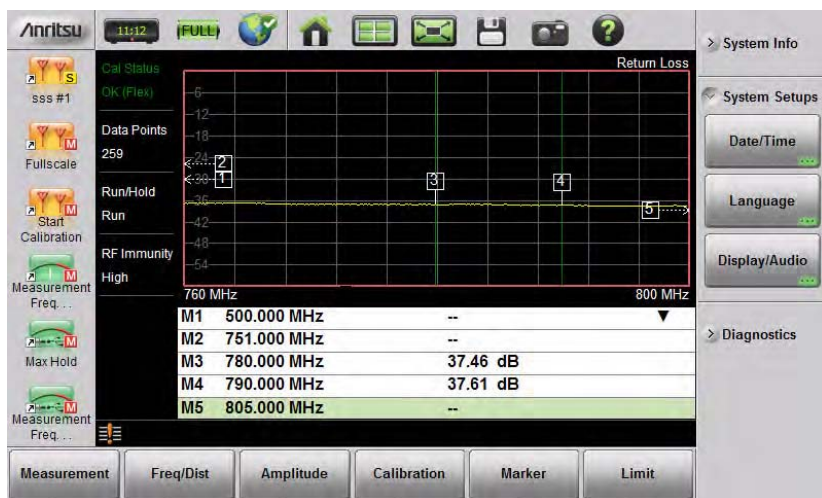

Figure 3-23. Markers 1, 2, and 5 are Out of Range
- If the frequency (F1 or F2) or distance (D1 and D2) parameters are moved inside a current marker location, then the out of range (---> or <---) indicator is displayed, and marker values in the Table are blanked (--). See Figure 3-23 for an example of markers beyond the current span.